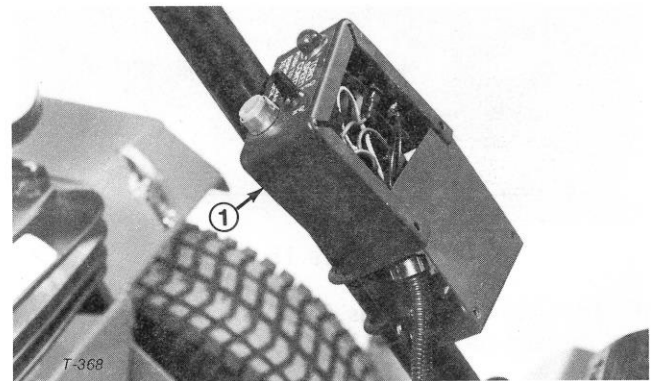
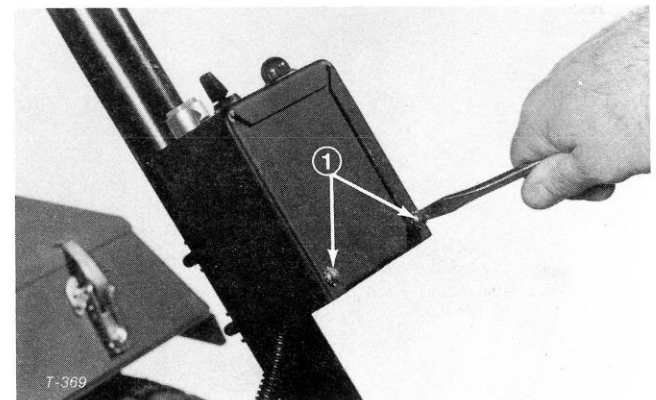

Figure 12
Figure 13
4. Slide cover assembly over box (Fig. 12). If you are unable to raise box assembly high enough to assemble over top of box because of insufficient cable length, loosen clamp nuts and lower box on steering shaft. Assemble external tooth lockwashers onto machine screws and secure cover assembly to box with screws (Fig. 13).